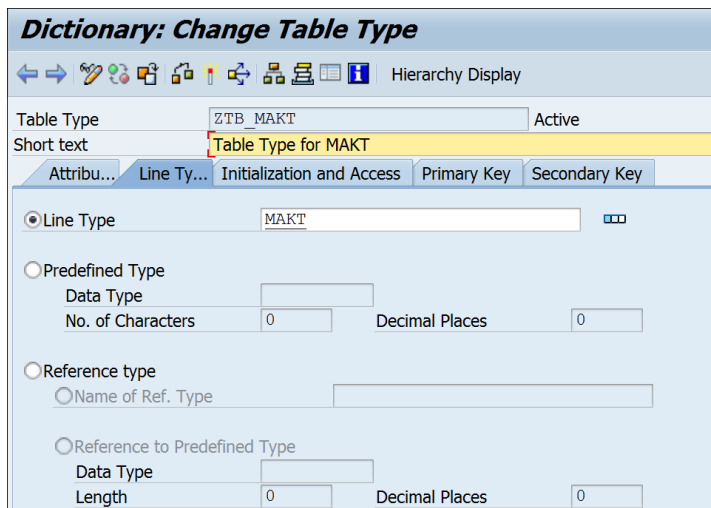

Figure 7.9 Maintaining Line Type for Table Type
3. On the next screen, provide short text and enter the structure name or ABAP Data Dictionary table name based on the line type you want the table type to contain, as shown in Figure 7.9. The line type mentioned here will form the components of the table type.